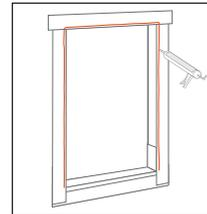

fig. 11
- a. Apply a continuous 3/8" nominal bead of caulk at the window head and jambs to wall or back side of the brickmould. DO NOT APPLY CAULK ACROSS BOTTOM SILL, BRICKMOULD OR WALL to allow for drainage. (**fig. 11**)